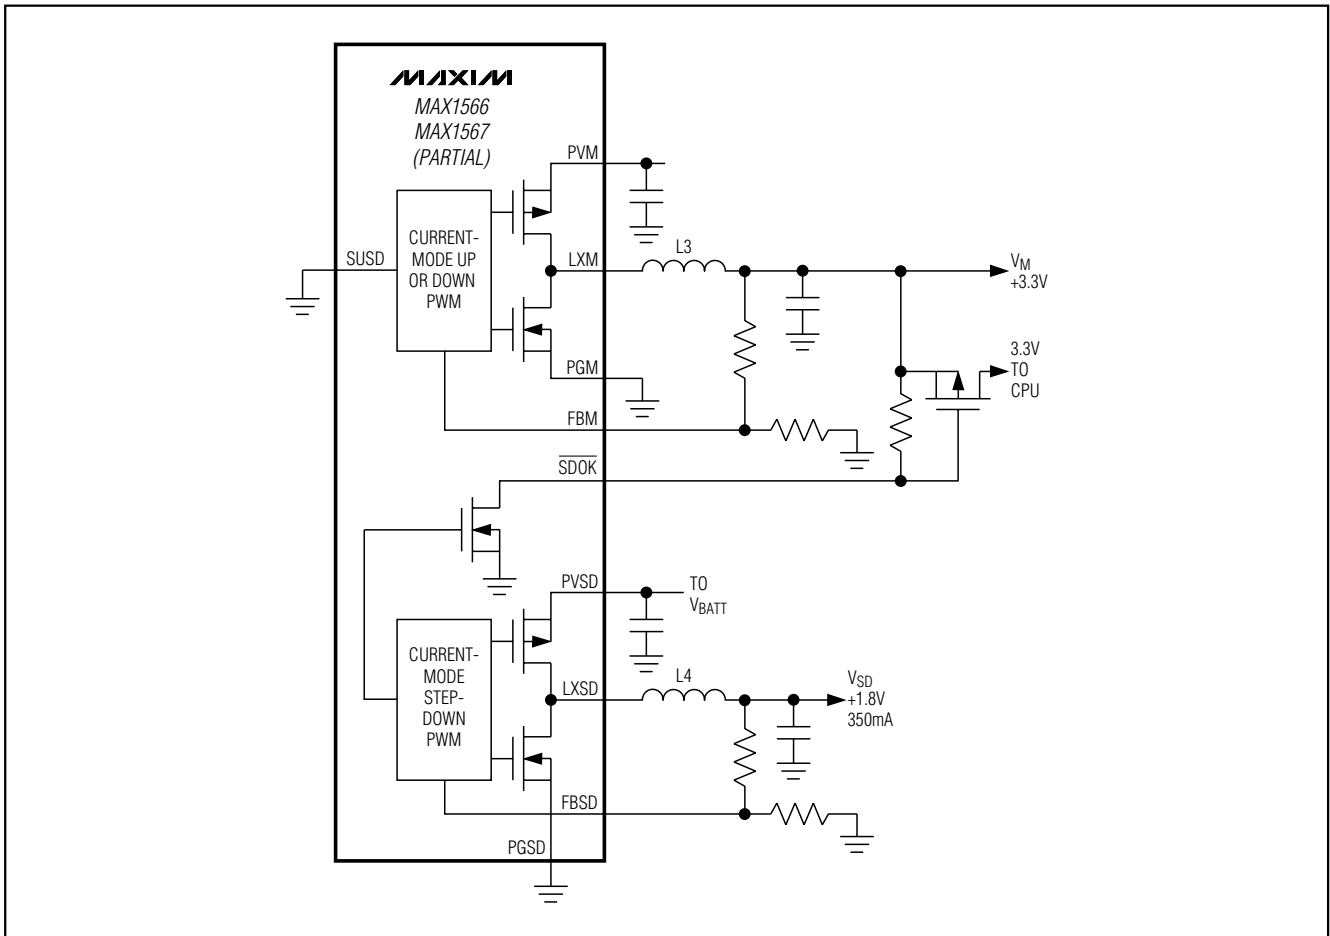

Figure 15. Using  $\overline{SDOK}$  to Drive External PFET that Gates 3.3V Power to CPU After 1.8V Core Voltage Is in Regulation
The step-down also features an open-drain  $\overline{\text{SDOK}}$  output that goes low when the step-down output is in regulation.  $\overline{\text{SDOK}}$  can be used to drive an external MOSFET switch that gates 3.3V power to the processor after the core voltage is in regulation. This connection is shown in Figure 15.
**SDOK** pulls low when the step-down has successfully completed soft-start. SDOK goes high impedance in shutdown, overload, and thermal limit. A typical use for SDOK is to drive a P-channel MOSFET that connects 3.3V power to the CPU I/O after the CPU core is powered up (Figure 15), thus providing safe sequencing in hardware without system intervention.